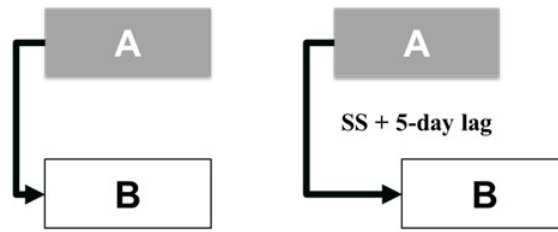

Figure 3.7: Start-to-Start
In this relationship, a successor activity (B) cannot start until we start the predecessor activity (A). Like a finish-to-finish relationship, it is possible to see a lag between these two activities. In Figure 3.7, the relationship on the right illustrates a 5-day lag. Activity B can start five days after Activity B starts.